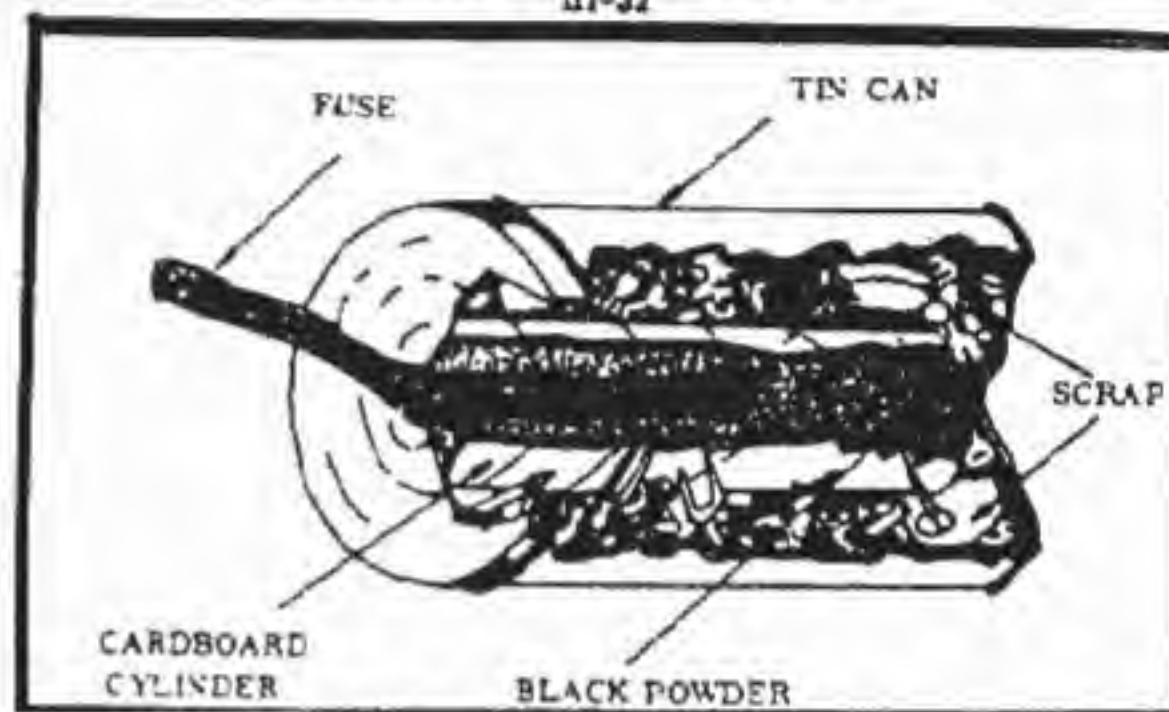

Figure 23. Tin Can Grenade.
3. Insert the cylinder into the can as shown in Figure 23 and surround with bolts, nuts, metal scrap and/or stones. Close the can with a lid which has a hole in the center for the fuse to pass through. If the container used has no lid, it may be closed with a piece of wood, metal or cardboard of the required size taped in place.